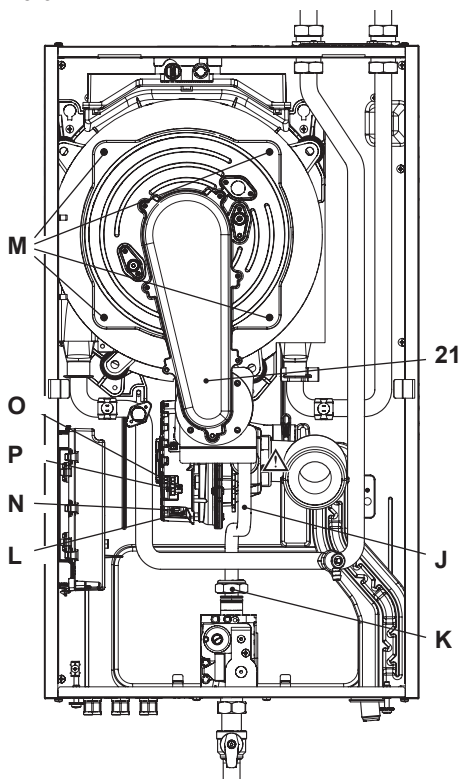

Fig. 10.6
Removing the fan burner unit 21 in Fig. 10.6.
- Insert a flat screwdriver in the connector recess "L" and lever towards the bottom, disconnect the connector at the same time "N" by pulling towards the front (Fig. 10.6).
- Unscrew screws "M" and remove the fan burner unit 21 (Fig. 10.6)